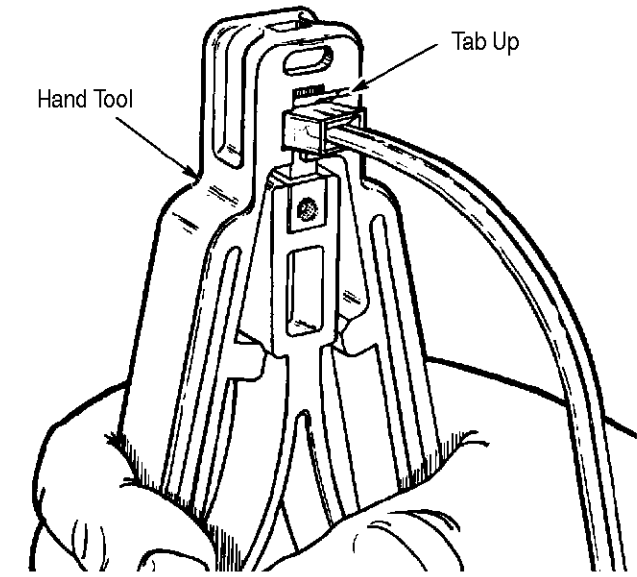

Figure 6
6. Insert modular plug connector – TAB UP – into die set. LOCKING TAB MUST SNAP INTO CAVITY. See Figure 6.